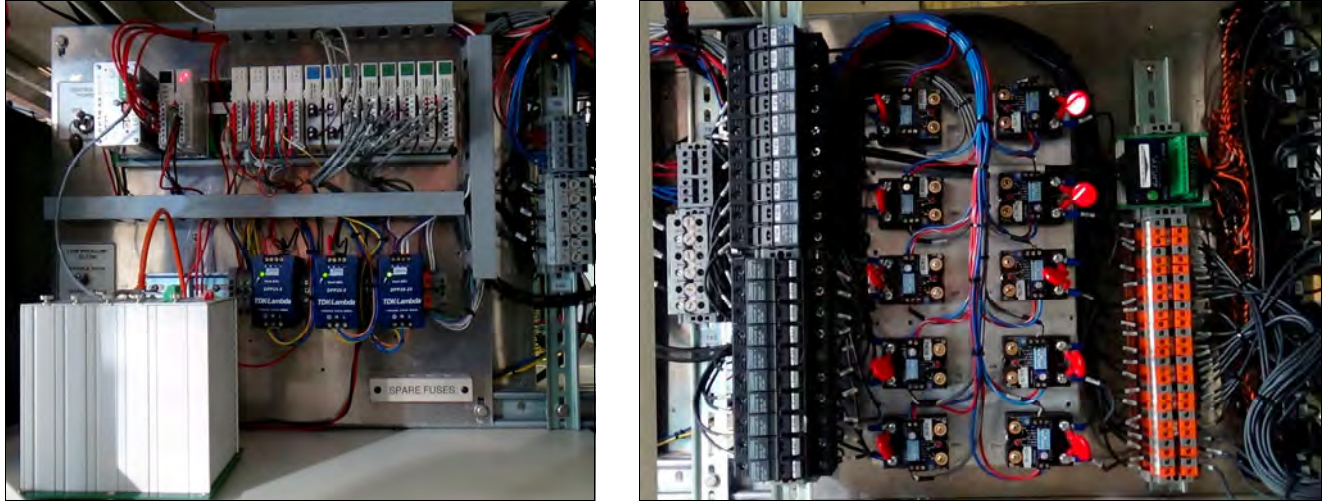

Figure 3-3 PLC panel (L) and SCR/EM panel (R)
**PLC panel** – Programmable logic controller with I/O (analog and digital input and output modules) for managing signals to and from the furnace systems. Located near furnace entrance on front side (Figure 3-3).
**SCR panel** – Contains the SCR power controllers, solid state switches and firing boards, that manage power to the lamps using signals from the furnace controller. Located next to PLC panel on front side (Figure 3-3).
**EM panel** – Element Monitor panel contains current detection devices for determining integrity of lamp heater strings. Located on SCR panel or next to SCR panel (Figure 3-3).